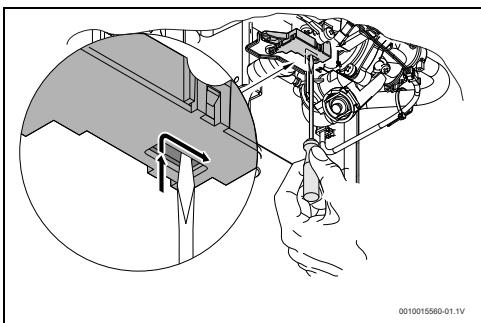

Fig. 31 Rearme do micro-interruptor
- Posicionar o micro-interruptor conforme Fig 31.